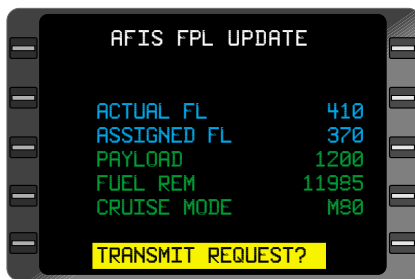

Figure 7-127
14. **ENT** Key - DEPRESS. The cursor positions over **TRANSMIT REQUEST?** field. (Figure 7-127)